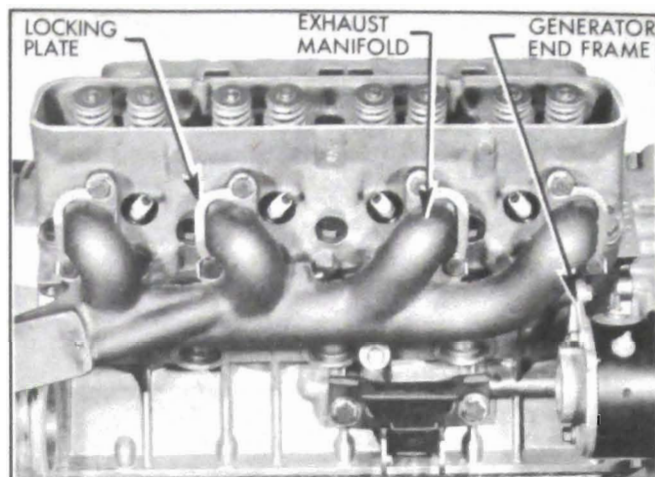

Figure 2-28—Exhaust Manifold Installation (Right Shown)
1. Place exhaust manifold in place against cylinder head and install bolts and locking plates as shown in Figure 2-28.